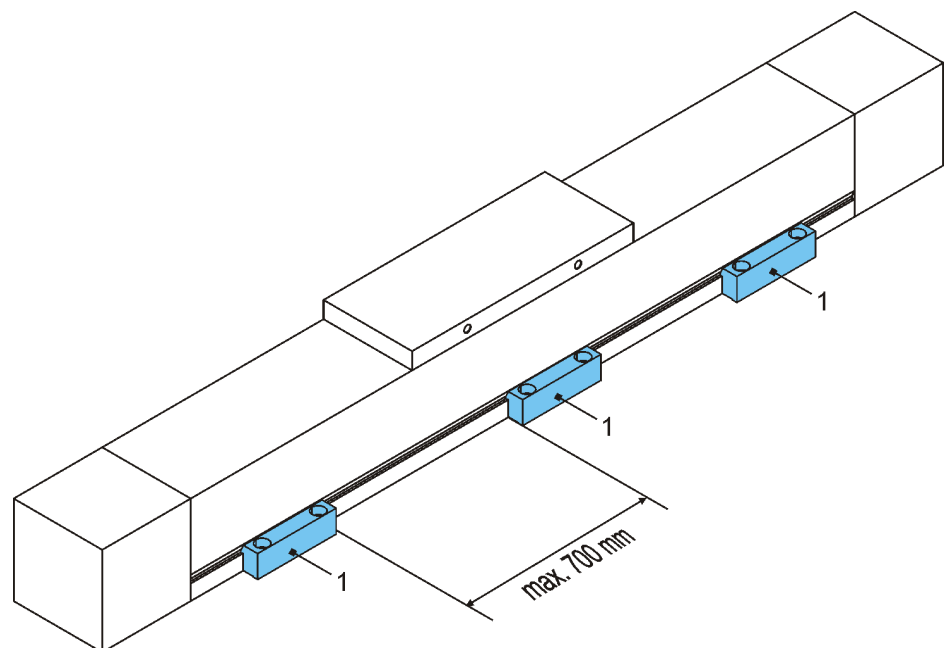

Figure 2: Mounting rails (1)
1. Attach the mounting rails (1) loosely in position (Figure 2).
3. Tighten the mounting rails (1)